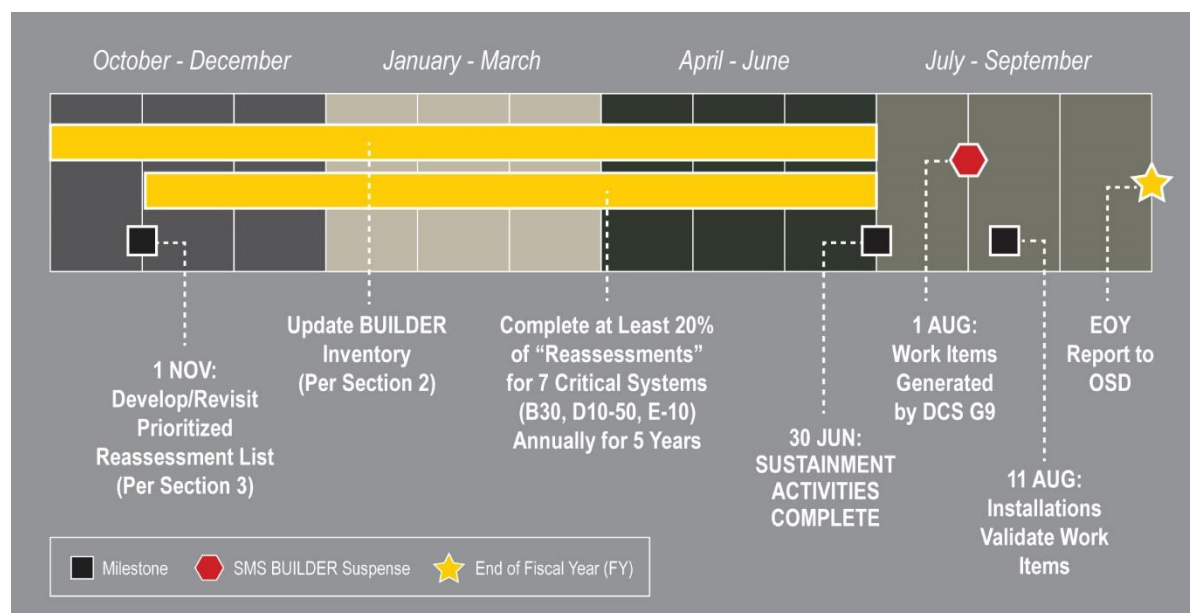

Figure 4: JMC BUILDER Sustainment Timeline
The JMC BUILDER Sustainment Timeline (Figure 4) depicts the key sustainment activities that must occur in Q1-Q3 of each fiscal year (FY) October-June. These BUILDER sustainment activities will support JMC, AMC, and the Army’s mandatory Real Property reporting to the Office of the Secretary of Defense (OSD) that occurs on 30 September each fiscal year.
Section 3 of this Guide details critical steps to prioritization and sequencing of BUILDER data sustainment activities, to identify the most mission-critical facilities and systems for JMC that will require building-level reassessment. As depicted in Figure 4: JMC BUILDER Sustainment Timeline, it is recommended that development of this prioritized reassessment list should be completed by 1 November and reviewed annually in Q1 to validate what assessments have been completed and what facilities remain for the coming year.